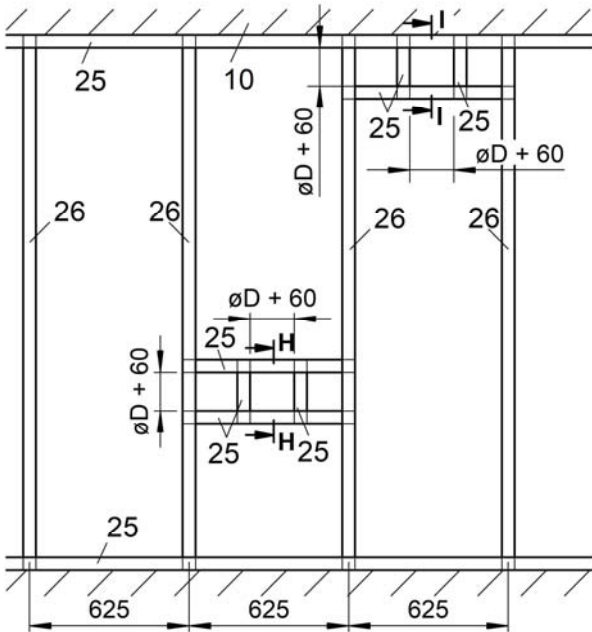

Figure 53: Metal posts plus required exchange parts for wet installation (F30; BSK-RPR 100 to ≤ 250)
- Mount the metal posts and the wall in accordance with the specifications of the wall manufacturer and the required exchange parts as shown in Figure 53.
- Leave a recess for wet installation of the BSK-RPR (pos.1) in the panelling (pos. 24) and provide mineral wool (pos. 27.3) in the exchange area.
- Mount the double-board layers on both sides (pos. 34.1 - front and back). The connection and butt joints must be filled with the jointing material of the wall.
- Insert the jointing material of the wall (pos. 33) into the circumferential gap 30 mm in width between the housing of the BSK-RPR and the wall recess.
- Mount the metal posts and the wall in accordance with the specifications of the wall manufacturer and the required exchange parts as shown on Figure 53. Before attaching the UW-profile (pos. 25) necessary for the circumferential metal profile frame in the ceiling area, a mineral wool strip approx. 50x40 mm (pos. 27.1) must be incorporated in the UW-profile at the ceiling.
- Leave a recess for wet installation of the BSK-RPR (pos.1) in the panelling and mineral wool in the exchange area.